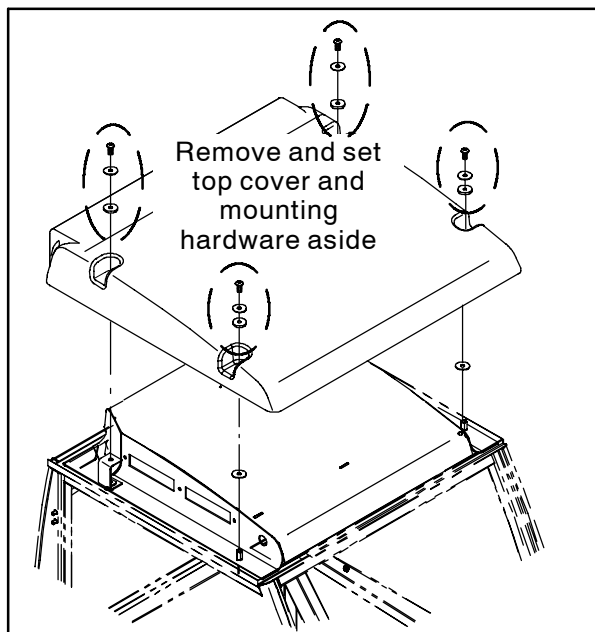

FIG. 1
1. Remove the top cover from the cab. Set the cover and hardware aside. Refer to Fig. 1.
- Reinstall the cab top cover. Refer to Fig. 1.